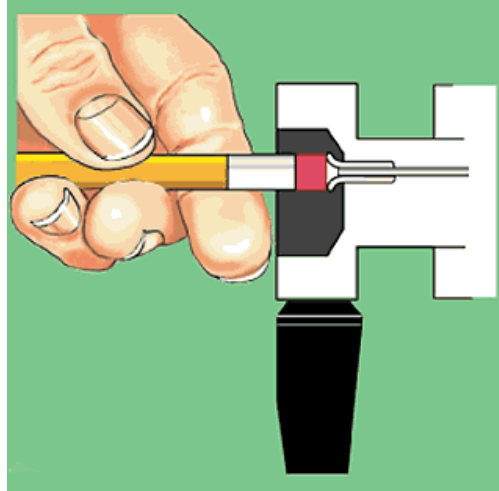

Figure 1. To reform the needle seal, push the eraser end of a pencil against the needle guide.
1. If fluid leaks out of the needle port only while loading the loop (i.e., while pushing down on the plunger of the syringe), the problem is most likely that the needle seal or the needle port fitting in the loop filler port is not gripping the syringe needle tightly enough to prevent leakage around the syringe needle. Tighten the needle seal grip by pushing down on the needle guide (see Figure 1) or replace the needle port fitting to make a tighter grip on the needle. The tightening reduces the hole diameter of the needle seal and port fitting.